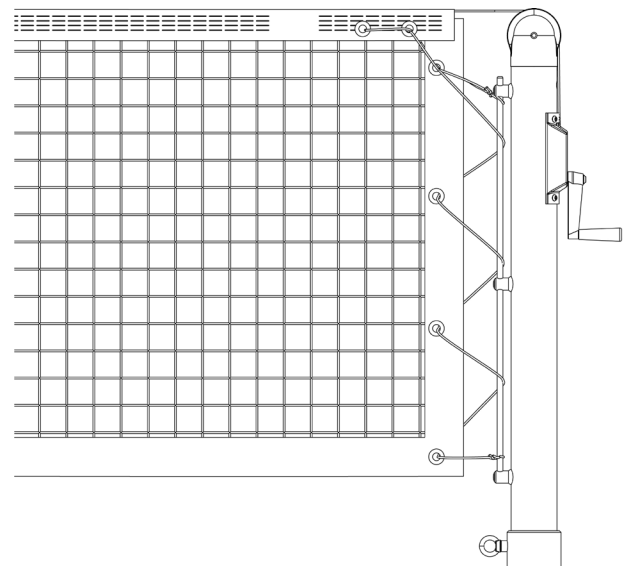

Figure 10
STEP 10: Threading the lacing cord through both grommets in the headband of the net one way, and then back through each grommet the other way, and through the top grommet in the sideband of the net. Continue threading the lacing cord around the lacing rod and through each grommet as shown in Figure 10. Apply equal pressure as you lace the net to the post.